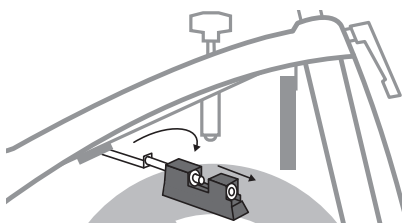

Figure 23
- 4: Twist out the brake unit and pull the brake block off the shaft, see figure 23.